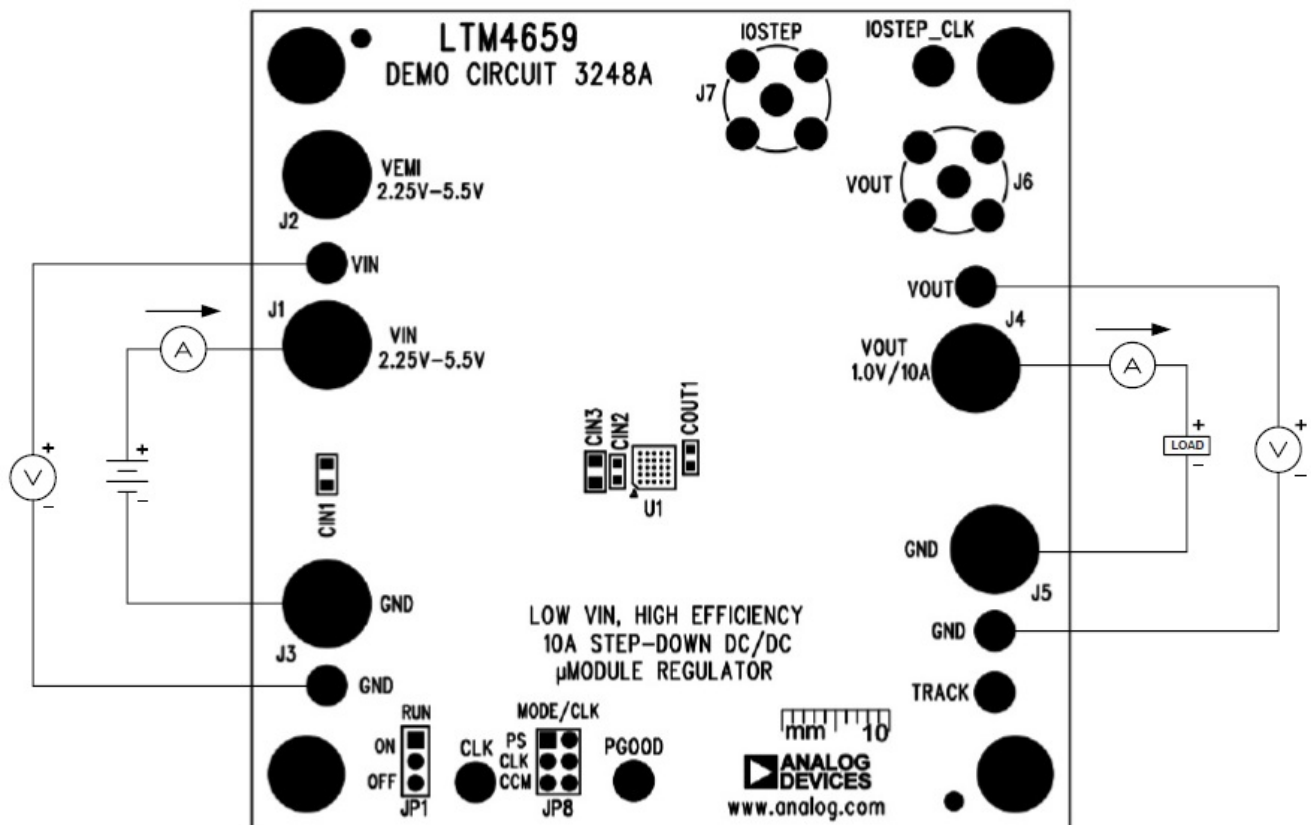

Figure 2. Measurement Setup of DC3248A
The DC3248A evaluation board is an easy way to evaluate the performance of the LTM4659. See Figure 2 for proper measurement equipment setup and follow the procedure below.
2. With the power off, connect the input power supply, load and meters as shown in Figure 2. Preset the load to 0A and VIN supply to 3.3V.